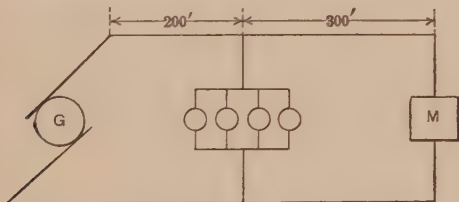

FIG. 89.
**Prob. 83.** Each lamp, Fig. 89, takes 2 amp. at 112 volts. The motor is 110-volt, 2-h.p., 75% efficiency. What size wire must be used between the motor and lamps?